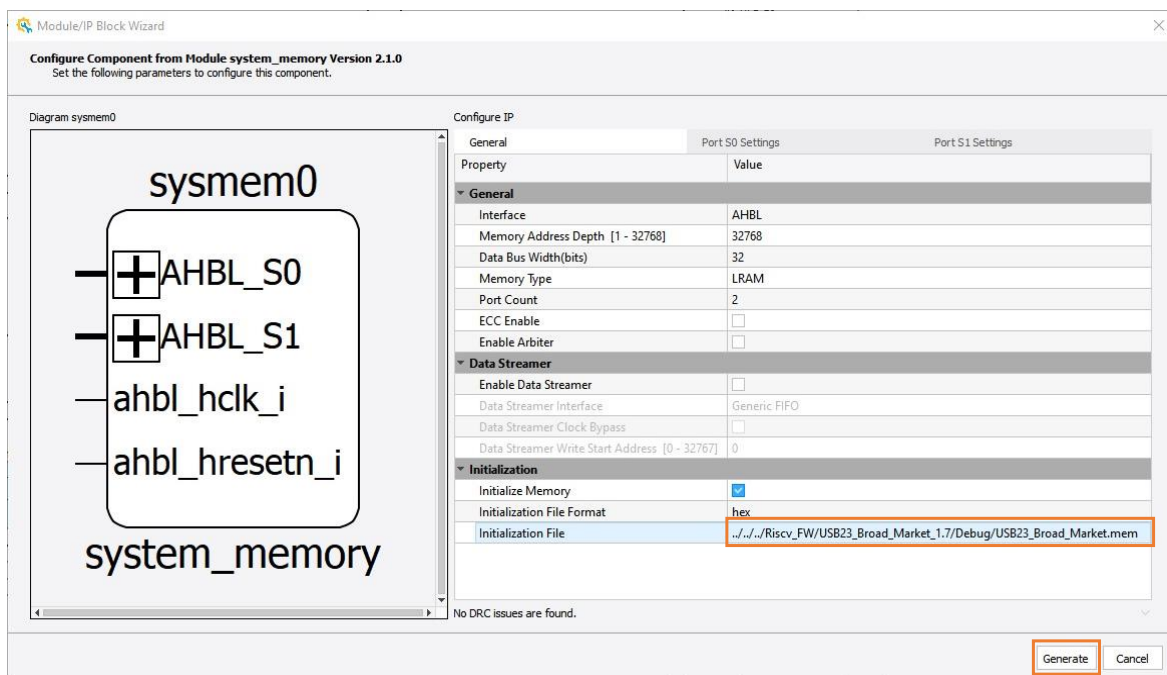

Figure 5.9. Mapping the System Memory Initialization File
2. In the system memory Module Block Wizard, make sure the Initialization File is mapped to `../Riscv_FW/USB23_Broad_Market_1.7/Debug/USB23_Broad_Market.mem` or the latest revision of the mem file, then click on the **Generate** button, as shown in Figure 5.9.